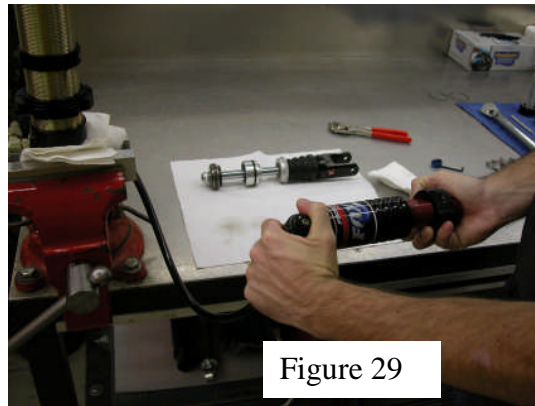

Figure 29
44. Fill shock body half way with oil. While still holding the reservoir below the body tube, very slowly pull back on the IFP. **(Figure 29)** Be careful not to pull the IFP out completely. Stroke the IFP back and forth a few times. You should see bubbles rising to the surface inside the body tube. Repeat this process until you don't see any new bubbles inside the body tube.